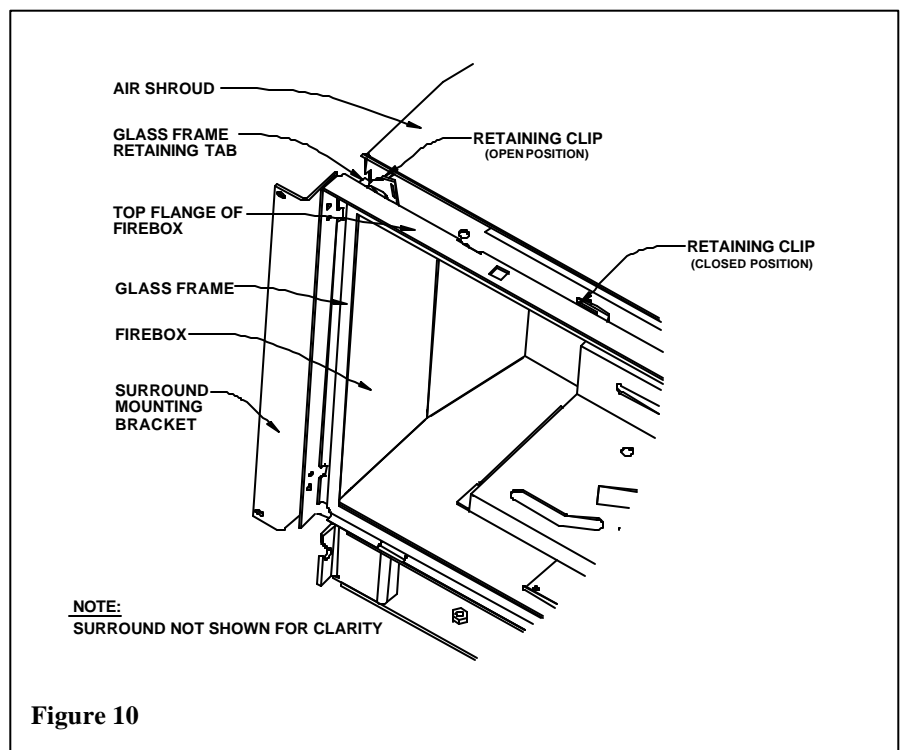

Figure 10
(Refer to Figures 10 & 11)
**Attach the left and right flanges, which come in the log accessory box, to the sides of the firebox, using the four screws also included. (for placement see figure 10)**
(Refer to Figures 10.)